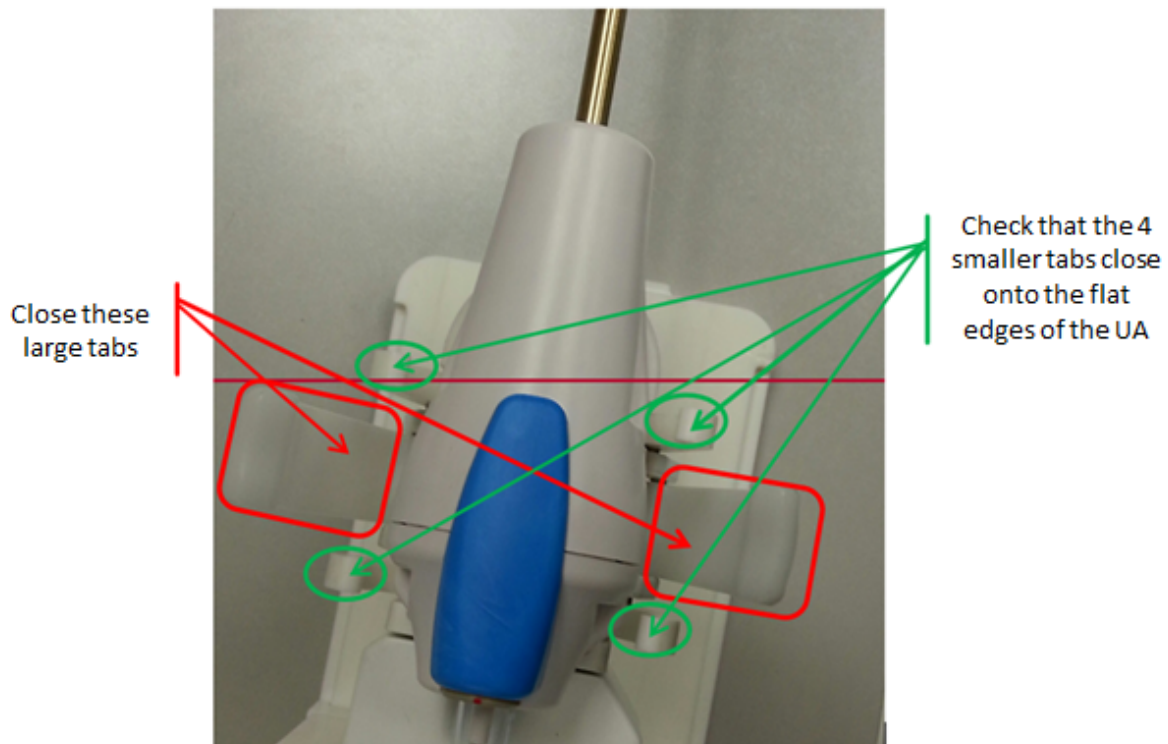

Figure 22: UA resting on PS with UA handle sitting in UA gripper
4. **MRI Technologist:** Capture the UA handle in the UA gripper of the PS (*Figure 22*). Ensure that the UA is not being 'forced' into position. If so, release the UA from the UA gripper and adjust the PS axes to achieve better alignment with the UA. Ensure the up-and-down and tilt-release knobs on the PS are locked before securing the UA in the gripper of the PS.